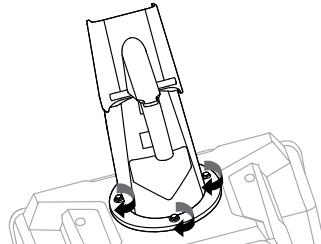

Fig. 3B
4. Tighten the bolts with a hex wrench. (Fig. 3B)